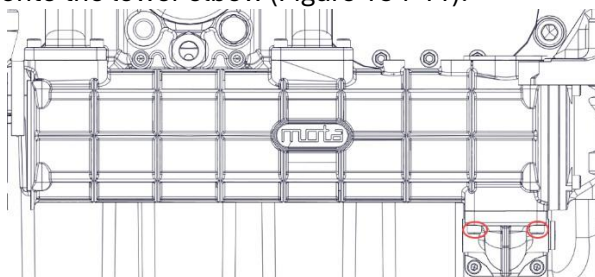

Figure 154-11.
8. Remove the lower elbow by removing the eight bolts and reinstall O-rings onto elbow, then reinstall the eight bolts by hand tightening back onto the lower elbow (Figure 154-11).